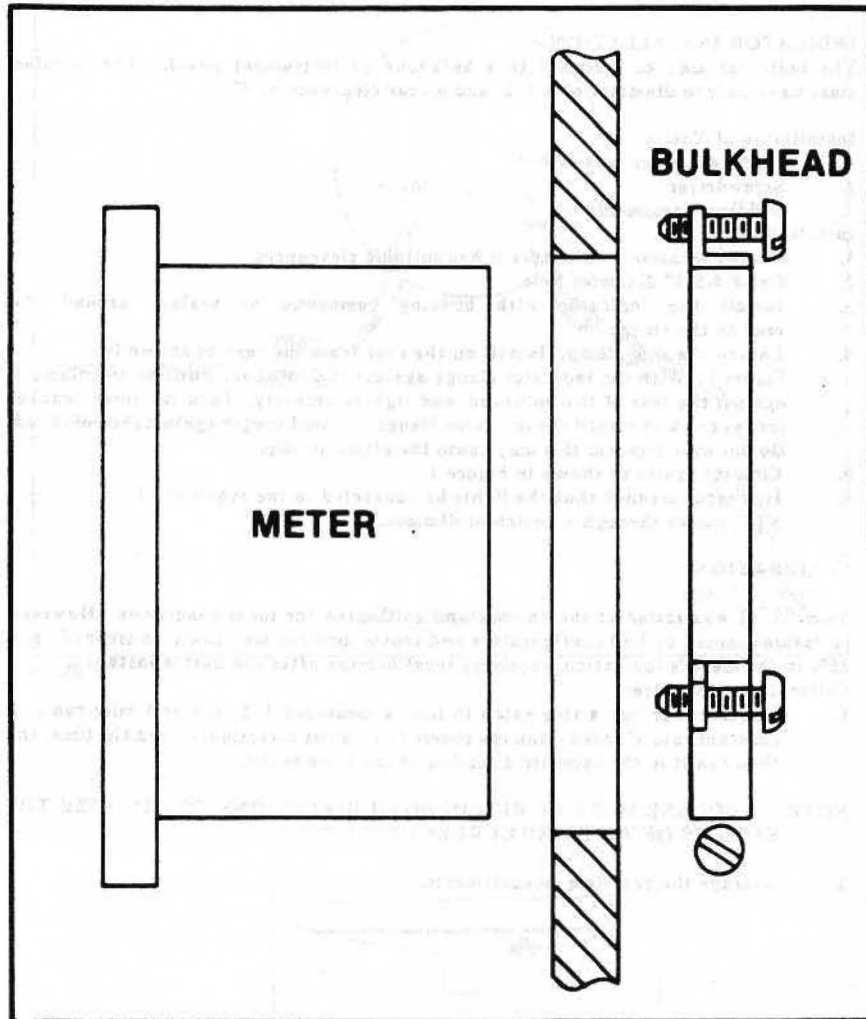

Figure 7
4. Loosen the ring clamp. Install on the case from the rear as shown in Figure 7. With the indicator flange against the bulkhead, position the clamp against the rear of the bulkhead, and tighten securely. Turn the three bracket screws clockwise until the indicator flange is seated snugly against the bulkhead. Do not over-tighten; this may cause the clamp to slip.